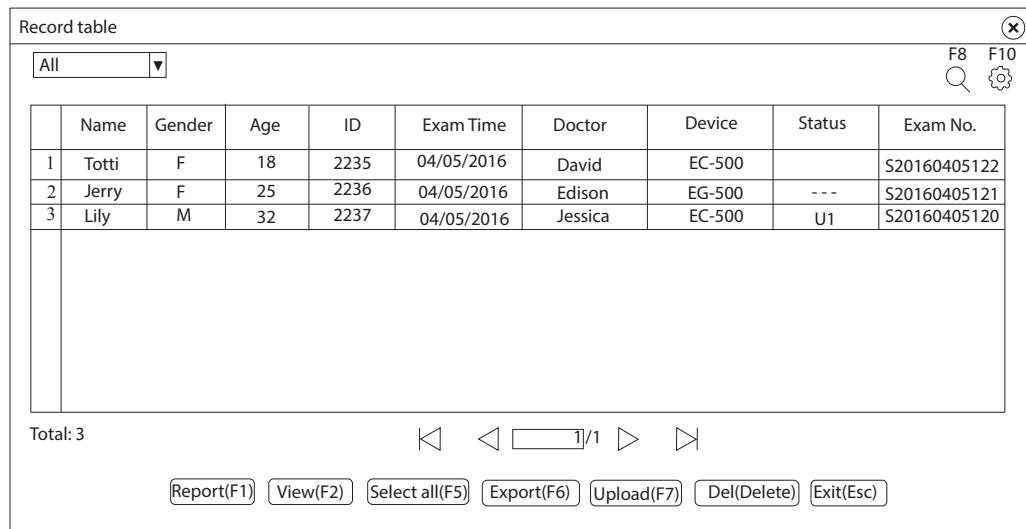

Figure 4-11 Record table interface
1. Select the record(s) to be deleted on the **Record table** interface (as shown in Figure 4-11).
On the **Record table** interface (as shown in Figure 4-11), select a record and then select **Report** or press **F1** on the keyboard to enter the **Edit report** interface.